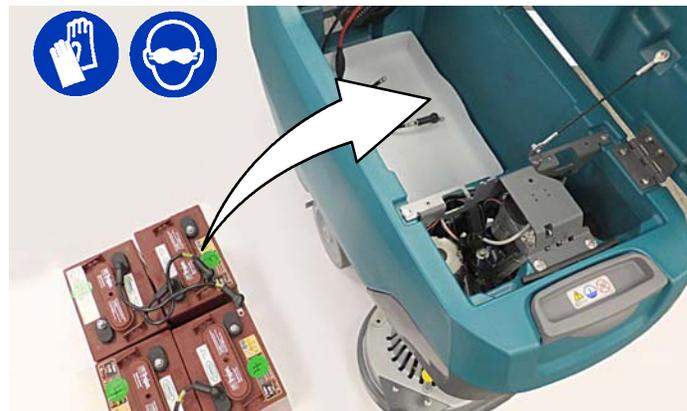

Fig. 24
6. Reinstall batteries and reattach scrub head if removed (Figure 24).